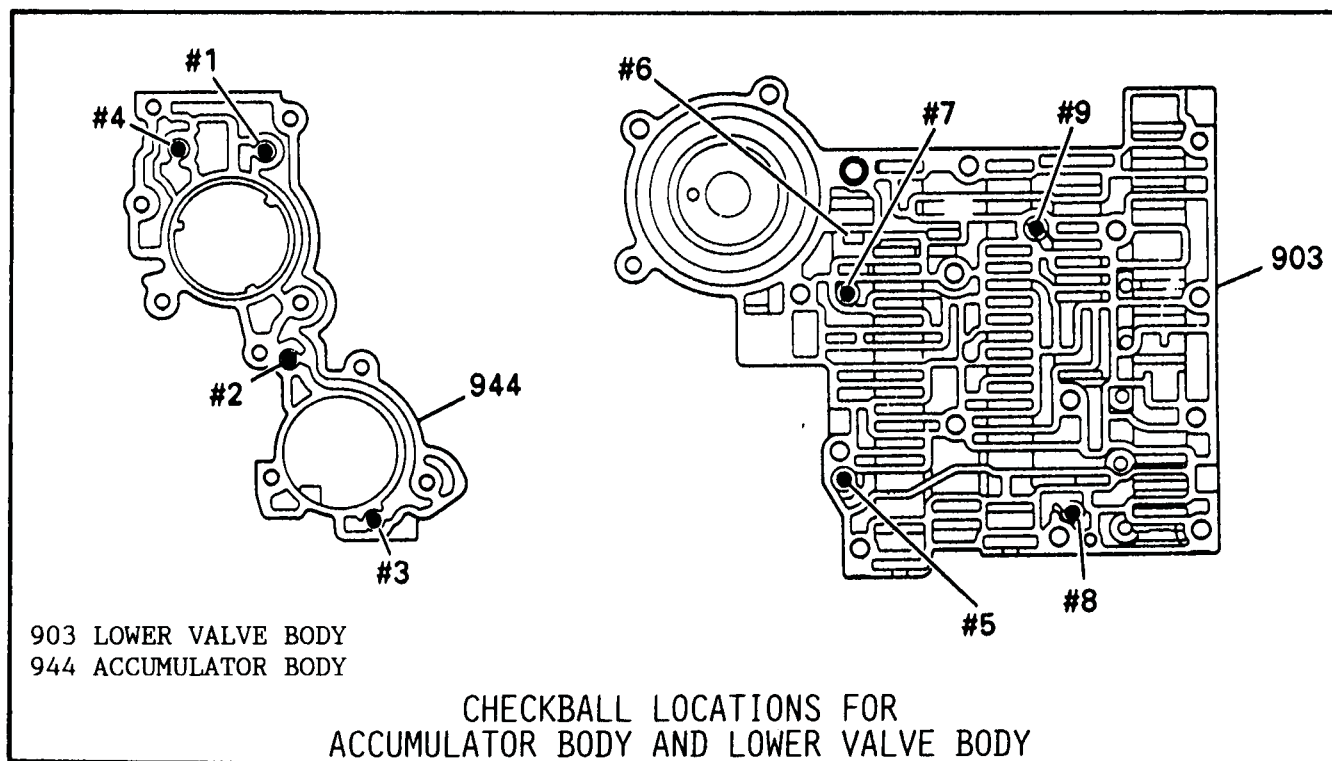

Figure 83
4. Install four lower valve body check balls in the locations shown Figure 83, and retain with TransJel.
12. Install four checkballs in accumulator housing in the locations shown Figure 83, and retain with TransJel.